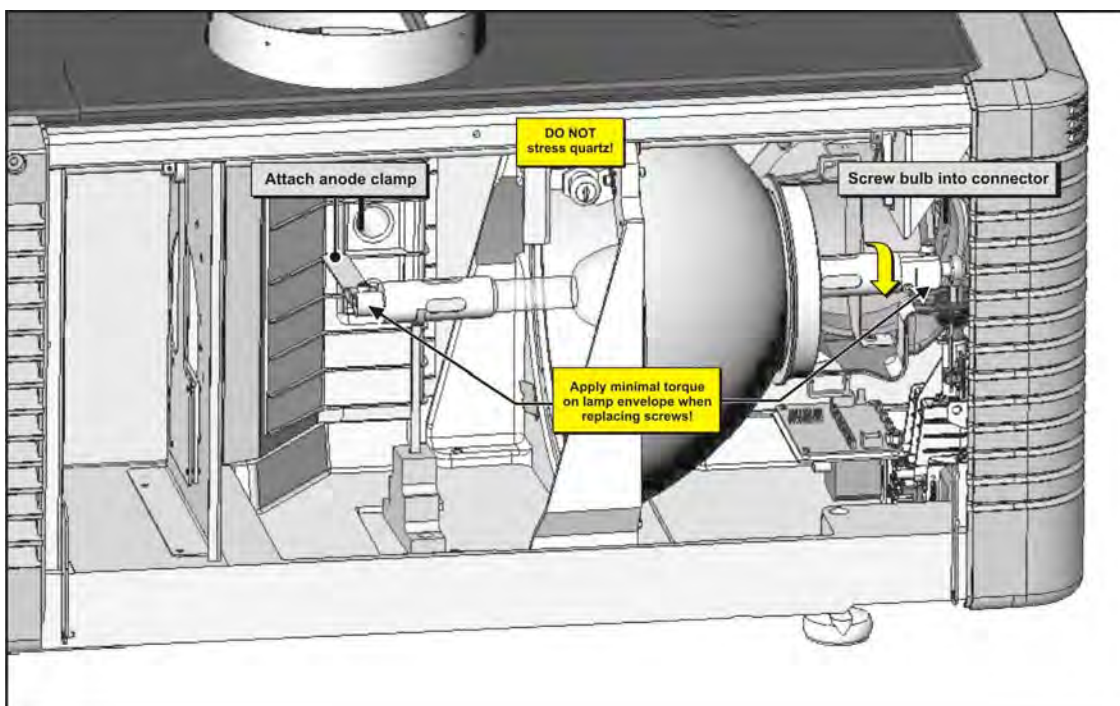

Figure 5-58 Install New Lamp
- c. Insert the threaded cathode (-) end of the lamp into the negative lamp connector nut located in the rear of the lamp compartment. (Figure 5-58) Using both hands, hand-tighten this end into the threaded nut. **CAUTIONS! 1) Handle the lamp by the cathode/anode end shafts only, never the glass. DO NOT over-tighten. DO NOT stress the glass in any way. 2) Check leads. Make sure the anode (+) lead between the lamp and igniter is well away from any projector metal such as the reflector or firewall.**
- d. **EXPLOSION HAZARD! DO NOT apply torque to the anode end of the lamp.** Rest the anode (+) end of the lamp on the anode yoke and slip the positive lamp connector over the bulb end. (Figure 5-58) Using the 5mm Allen key, squeeze together with the anode clamp making sure not to place any torque on the lamp quartz tube.